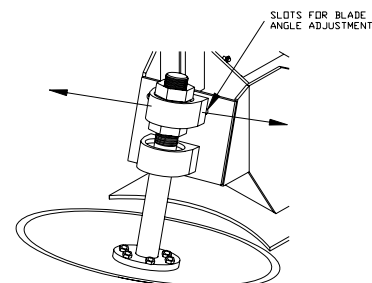

Figure 24 - Mechanical Disc Scalper Blade Angle Adjustment
3. The side-to-side angle of the blade can be adjusted by loosening the two bolts on the top bearing and moving the bearing in the slots on the mounting plate. Re-tighten the bolts when finished. The top bearing is positioned at the factory in the center of the slots. See Figure 24